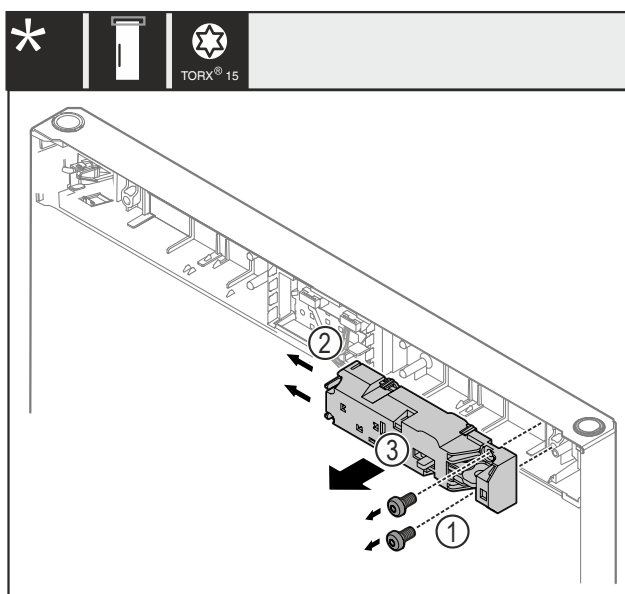

Fig. 21
- Remove the screws Fig. 21 (1).
- Push the latching tabs Fig. 21 (2) to the side and remove the remote lock Fig. 21 (3).